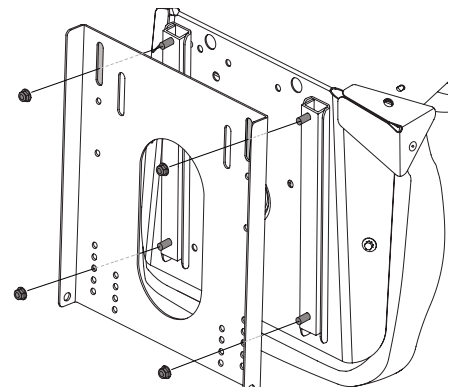

Figure 2-13
2. Using the four provided bolts (a), install the seat onto the seat pan. Place the screws (b) on the front of the seat through the middle hole in the seat pan (c) as shown in Figure 2-13. Securely tighten the seat to the seat pan.